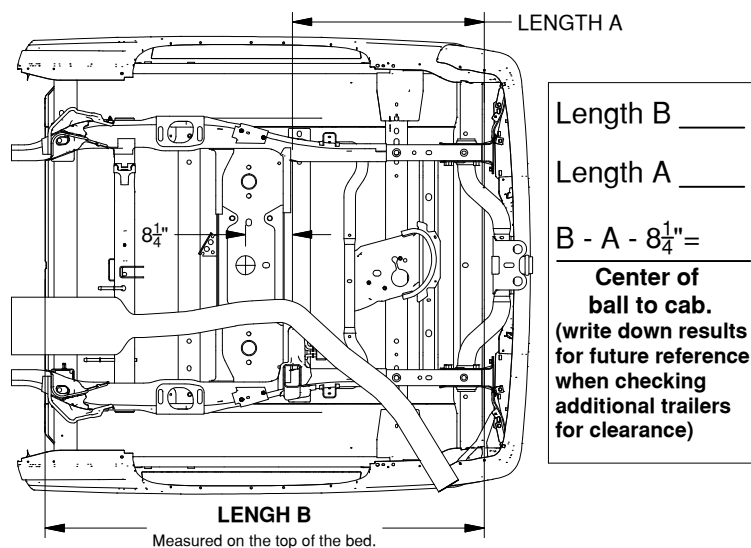
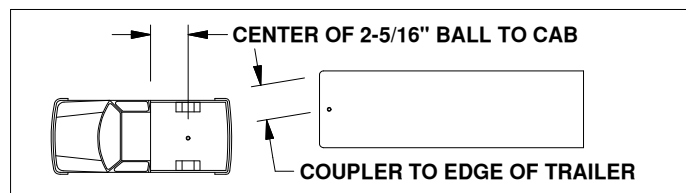

FIGURE A2: View of bottom of truck.
Figure A3: Truck and trailer diagram
1. **Determine cab clearance:** Under the truck bed, measure from the rear most edge of the C-channel frame crossmember (over the axle) to the end of the bed, see Figure A2, Length A. Next, inside the bed, measure the length of the bed from the rear edge to the front, see Figure A2, Length B. Subtract the crossmember measurement (Length A) from the bed measurement (Length B). Then subtract an additional 8-1/4" inches. This will give you the amount of clearance you have between the 2-5/16" ball location and the cab. Measure the distance from the center of the trailer's coupler to the farthest forward corner point of the trailer. Compare this distance to the measurement from the center of the ball to the cab. These measurements will allow you to see how much clearance you will have between the cab and the trailer while towing and turning, see Figure A3.